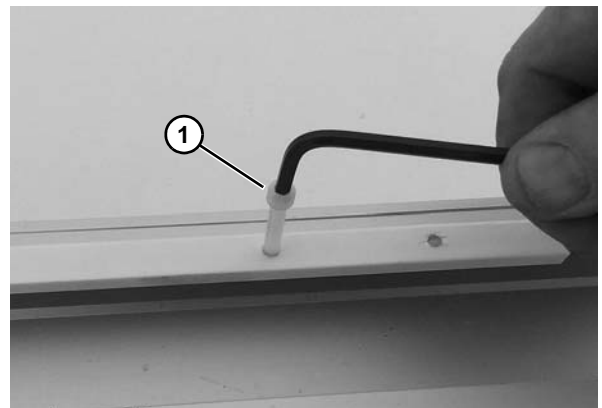

Figure 39
1. Insert the nylon screws (**Figure 39, item 1**) into the holes using a hex driver until the screw is flush with the bottom of the slide rail.